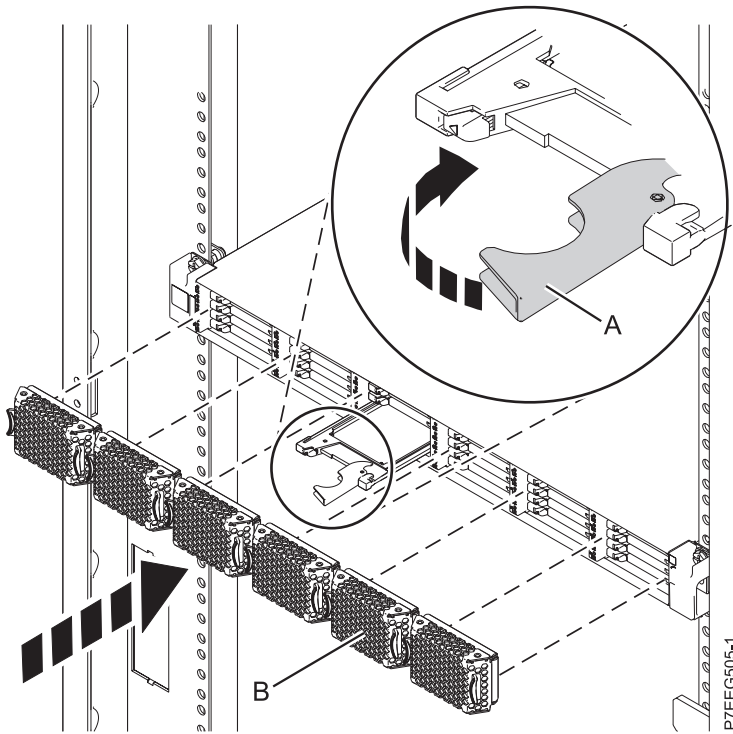

Figure 39. Replacing a solid-state drive in the EDR1 PCIe storage enclosure.
4. When the solid-state drive identify LED flashes, slide the solid-state drive all the way into the EDR1 PCIe storage enclosure until it is fully seated. Then rotate the handle (A) to the locked position. See Figure 39.
5. Install the bezel (B).